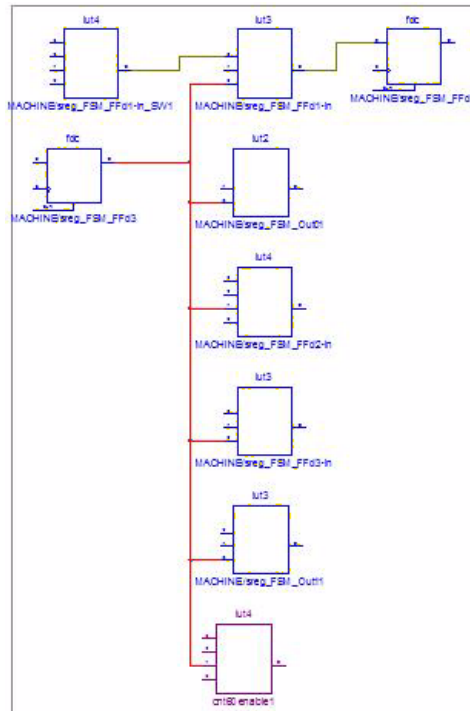

Figure 4-12: Connecting the Net
- Continue to double-click on the (dashed-line) net until it becomes a solid line, meaning that all elements connected to the net are now visible as shown in Figure 4-12.